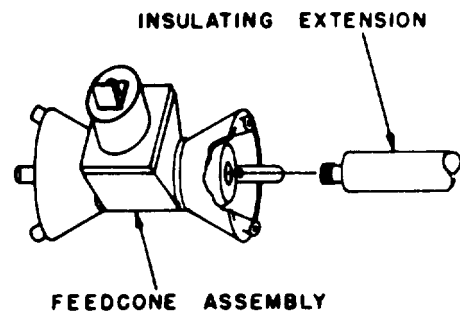

Figure 2-9. Connecting insulating extension to feedcone assembly.
(1) Coat the insulating extension screw thread with anticorrosion compound (silicone) (item 2, app. E). Screw the insulating extension into the feedcone structure (fig. 2-9) and assemble to the mast.